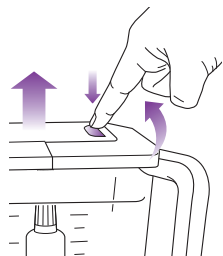

Fig. 6
- 7 If the ingredients stick to the side of the container, stop the appliance by pressing the power button (⏻) and wait for the attachment to stop turning. Then remove the lid by pressing the release button, lifting the handle up and pulling straight up. (Fig. 6) Use a spatula to dislodge the pieces, replace the lid and continue processing.